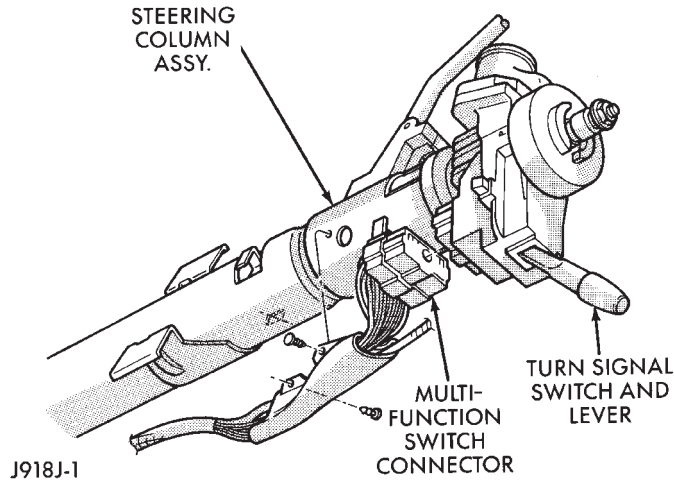

Fig. 2 Multi-function Switch Connector
(5) Remove switch connector (Figs. 2 and 3).